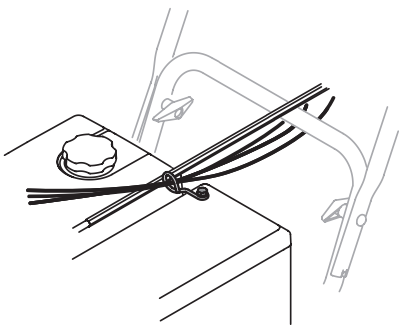

Figure 2-34
- Check that all cables are properly routed through cable guide on top of engine. See Figure 2-34.
10. Check that all cables are properly routed through cable guide on top of engine. See Figure 2-34.